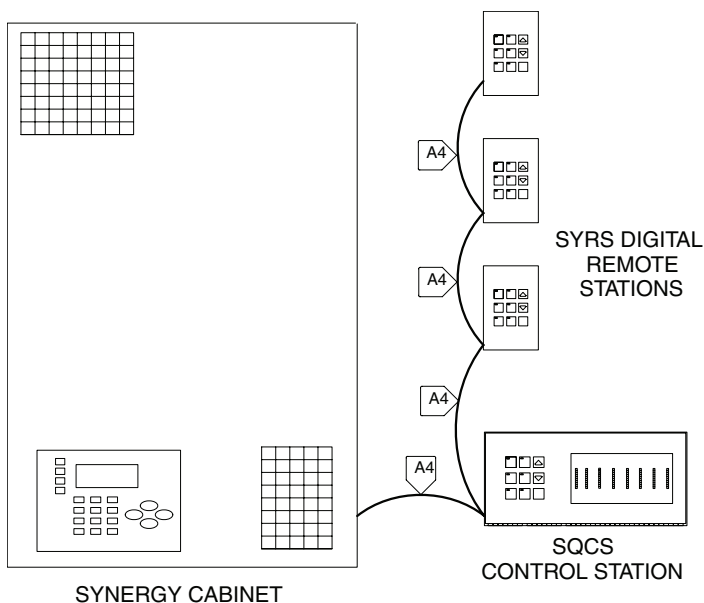

Figure 2 - SYRSP Remote Station One Line Drawing
4. All A4 network devices **must** be connected in a daisy chain (in and out) configuration. "T" taps or branches in the network are **NOT** permitted. See *Figure 2*.